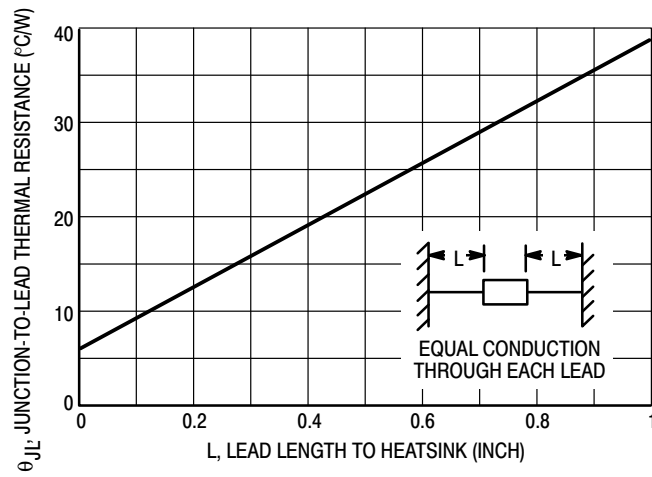
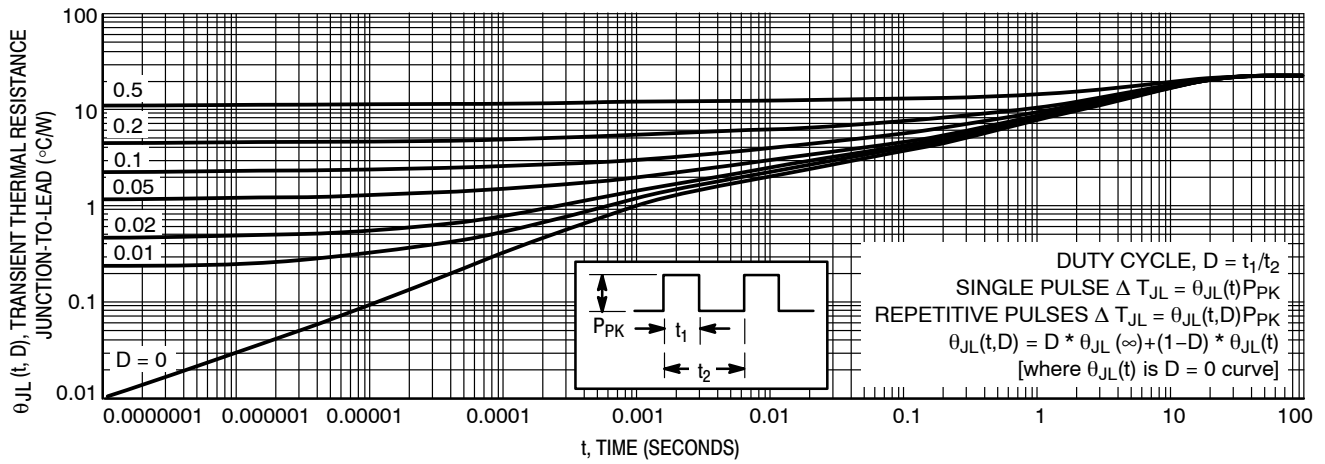
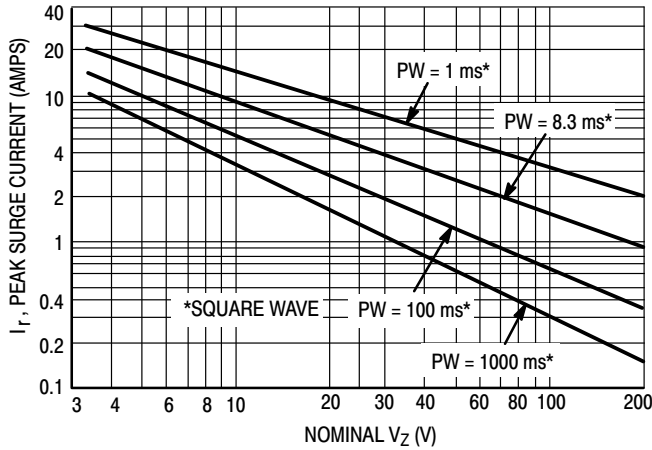
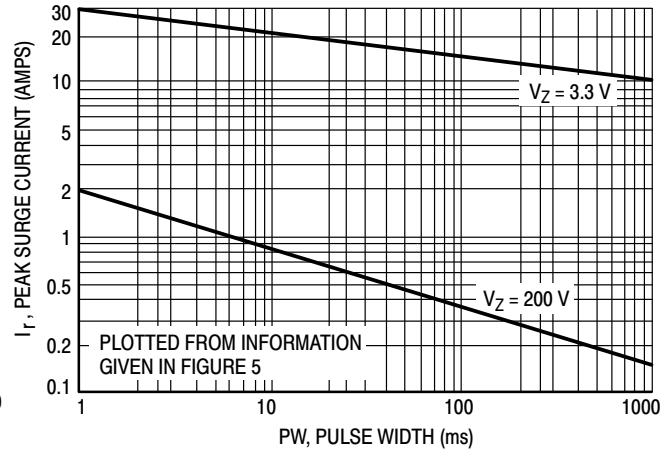

Figure 1. Typical Thermal Resistance
Figure 4. Typical Thermal Response
Figure 5. Maximum Non-Repetitive Surge Current
Figure 6. Peak Surge Current versus Pulse Width
- SURGE CURRENT (I_R):** Surge current is specified as the maximum allowable peak, non-recurrent square-wave current with a pulse width, PW, of 8.3 ms . The data given in Figure 5 may be used to find the maximum surge current for a square wave of any pulse width between 1 ms and 1000 ms by plotting the applicable points on logarithmic paper. Examples of this, using the 3.3 V and 200 V zener are shown in Figure 6. Mounting contact located as specified in Note 2 ($T_A = 25^\circ\text{C} + 8^\circ\text{C}, -2^\circ\text{C}$).
- SURGE CURRENT (I_R):** Surge current is specified as the maximum allowable peak, non-recurrent square-wave current with a pulse width, PW, of 8.3 ms. The data given in Figure 5 may be used to find the maximum surge current for a square wave of any pulse width between 1 ms and 1000 ms by plotting the applicable points on logarithmic paper. Examples of this, using the 3.3 V and 200 V zener are shown in Figure 6. Mounting contact located as specified in Note 7 ($T_A = 25^\circ\text{C} + 8^\circ\text{C}, -2^\circ\text{C}$).
ΔT_{JL} is the increase in junction temperature above the lead temperature and may be found from Figure 4 for a train of power pulses or from Figure 1 for dc power.
Data of Figure 4 should not be used to compute surge capability. Surge limitations are given in Figure 5. They are lower than would be expected by considering only junction temperature, as current crowding effects cause temperatures to be extremely high in small spots resulting in device degradation should the limits of Figure 5 be exceeded.